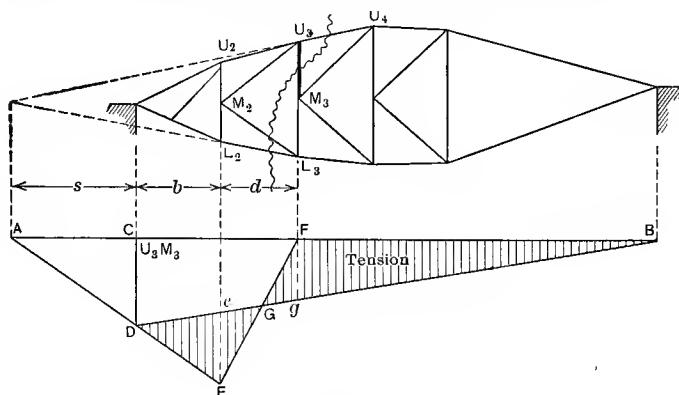

FIG. 28.
**Upper Segment of Vertical in the "K" Truss.**—In Fig. 28 a section cutting the upper segment of the vertical  $U_3L_3$